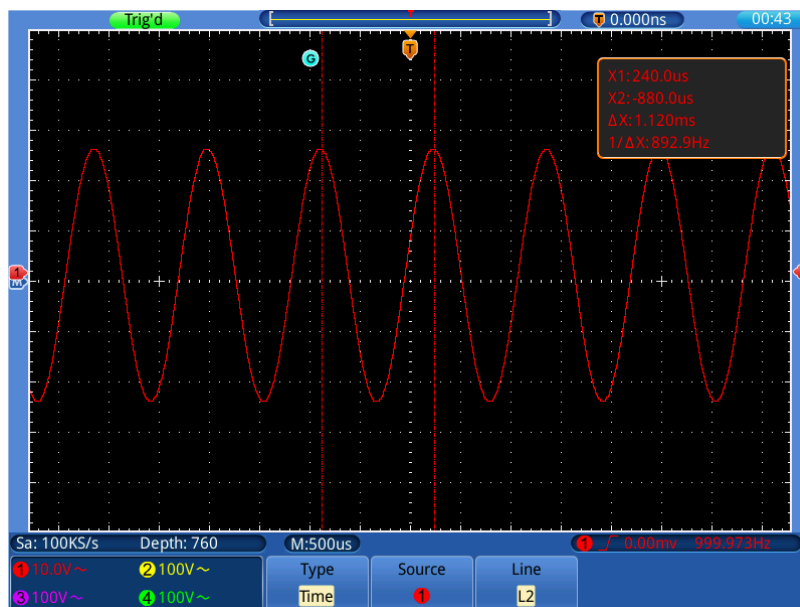

Figure 0-11 Waveform of Time Cursor Measurement
2. Select **Source** in the bottom menu; select ① in the left menu.
4. Select **Line** in the bottom menu; select **L1** in the right menu. The **G** icon will appear beside the dotted line of L1, represents you can turn the **G** knob to adjust the position of L1. Select **L2** to adjust the position of L2. Select **L1&L2** to adjust the two cursors together. The cursor measure window at the top right shows the present time of cursor 1 and cursor 2, the absolute difference and the frequency (see *Figure 0-11*).